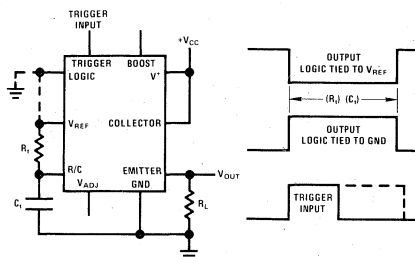

FIGURE 2. Basic Timer-Emitter Output and Timing Chart
*Figure 2* is again a basic timer, but with the output taken from the emitter of the output transistor. As with the collector output, either a high or low condition may be obtained during the timing period.